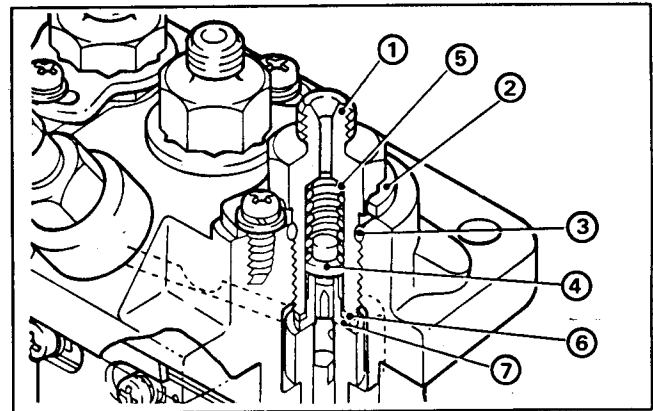

Figure 33
A. Remove the delivery valve holder (Fig. 33). Remove the delivery valve and spring. The valve seat must remain in place.